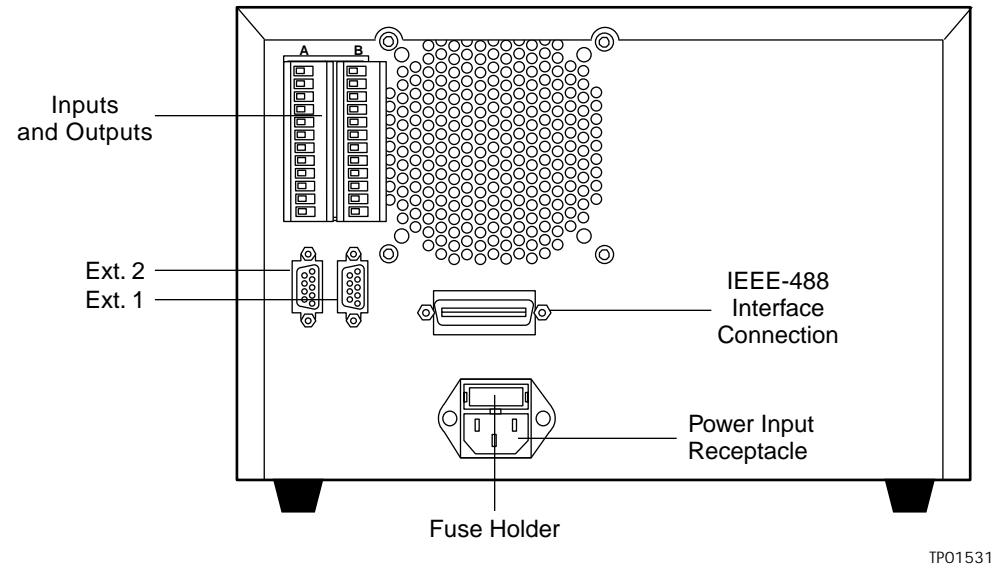

Figure 2-3 Waters 2410 Refractometer Rear Panel
The two fuses are located above the power input receptacle within the power input module on the rear panel (Figure 2-3).
1. Plug the receptacle end of the power cord into the ac power input receptacle on the rear panel of the detector (Figure 2-3).